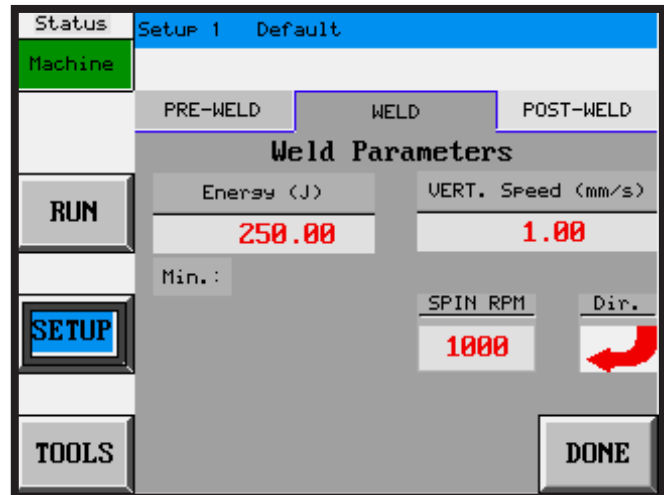

Figure 5-16 Weld Parameters Screen for Energy Method
In this method, weld duration is controlled by the amount of energy input into the weld joint as determined by the spin torque and angular rotation. The welder will maintain a constant spin speed until the programmed energy is produced. Then the tool will decelerate and stop. The Weld Parameters button is used to enter the settings shown in Figure 5-16. The Energy (J) field specifies the weld energy in Joules. As a safety measure, using the Energy Method requires that the Weld Time Process Limit be enabled (To set this limit, refer to the Process Limits description in the POST-WELD menu later in this manual.). If the Upper Weld Time Limit is exceeded during the weld, the machine will stop the cycle and report an error. The VERT Speed (mm/s), SPIN RPM, and Dir. fields are the same as in the Time Method. Press DONE to return to the main WELD tab screen.